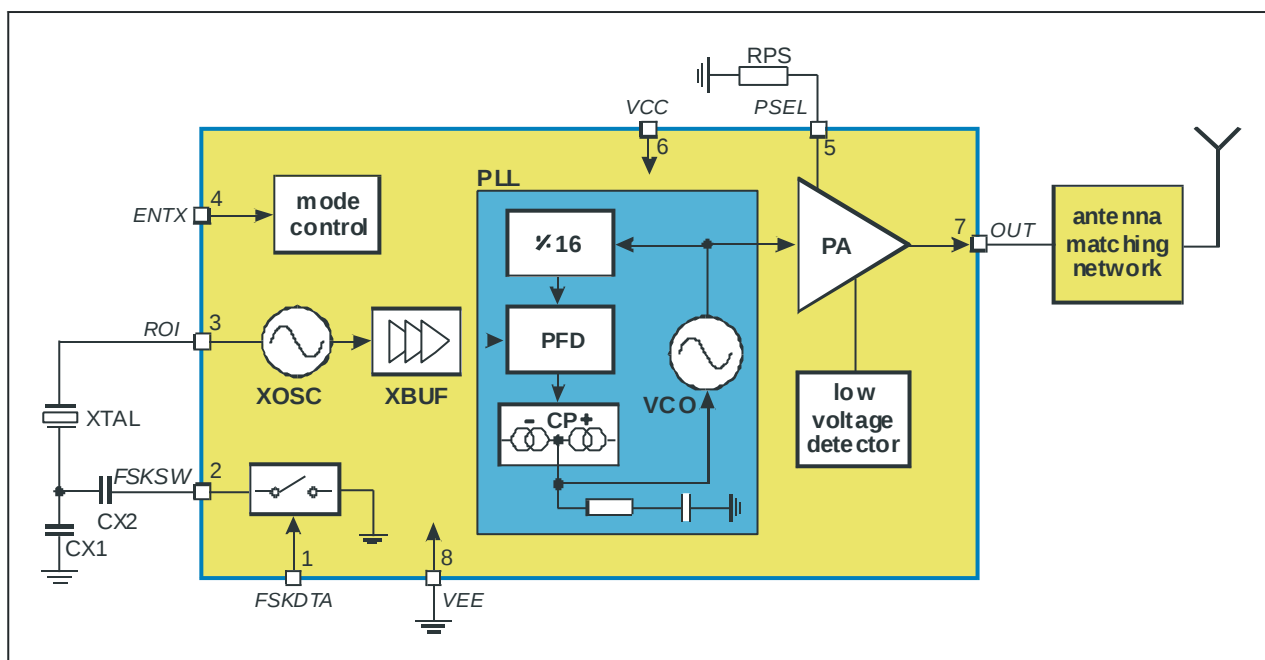

Fig. 1: Block diagram with external components
As depicted in Fig.1, the MLX72013 transmitter consists of a fully integrated voltage-controlled oscillator (VCO), a divide-by-16 divider (div16), a phase-frequency detector (PFD) and a charge pump (CP). An internal loop filter determines the dynamic behavior of the PLL and suppresses reference spurious signals. A Colpitts crystal oscillator (XOSC) is used as the reference oscillator of a phase-locked loop (PLL) synthesizer. The VCO's output signal feeds the power amplifier (PA). The RF signal power P_{out} can be adjusted in four steps from $P_{out} = -14$ dBm to $+11$ dBm, either by changing the value of resistor R_{PS} or by varying the voltage V_{PS} at pin PSEL. The open-collector output (OUT) can be used either to directly drive a loop antenna or to be matched to a 50Ohm load. Bandgap biasing ensures stable operation of the IC at a power supply range of 1.95 V to 5.5 V.